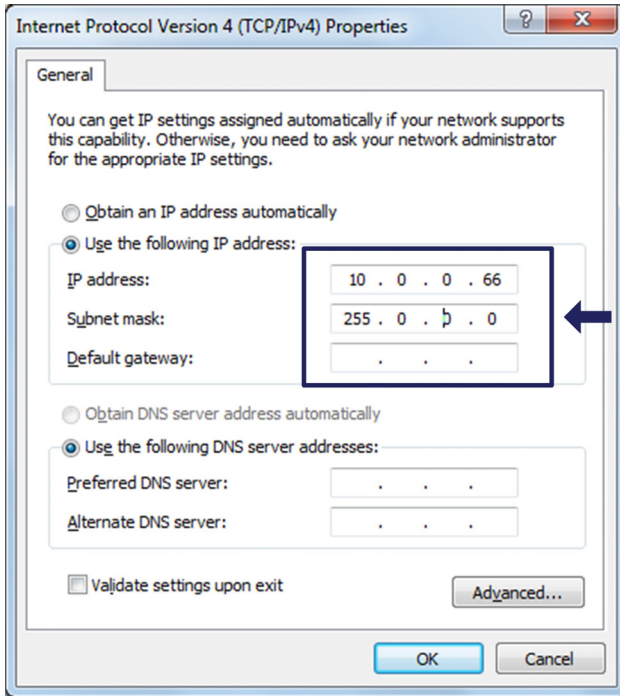

Fig. 3.9 IP and Subnet
- ▶ Set the **IP address** and the **Subnet mask** (Fig. 3.9).